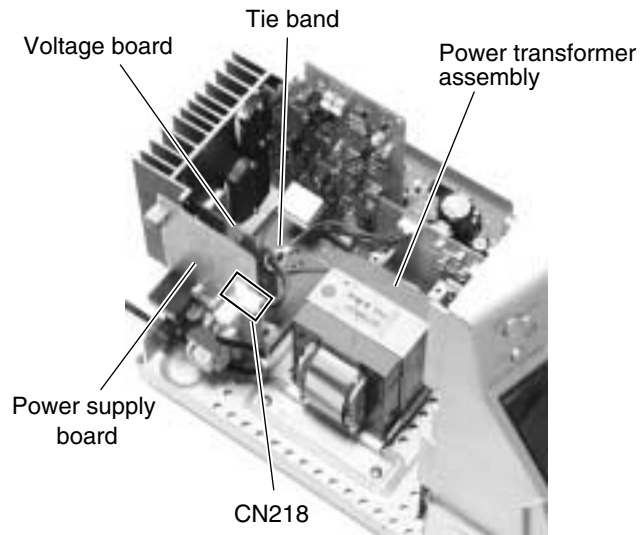

Fig.22
■ Removing the power transformer assembly (See Fig.22 and 23)